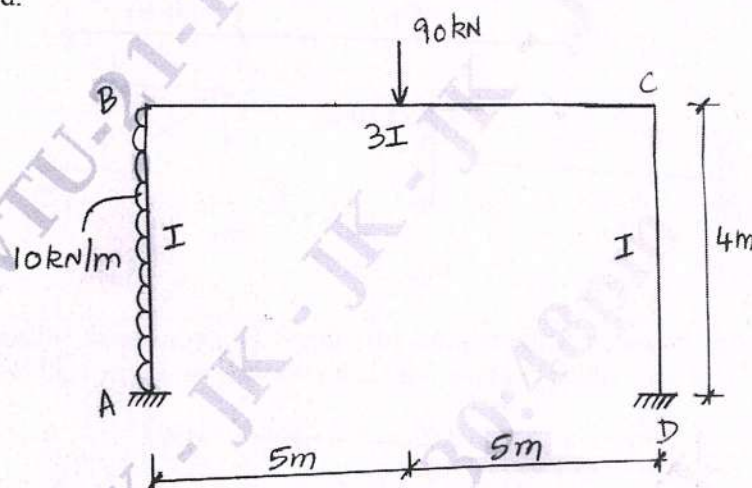

Fig.Q.8
- Q.8 Analyze the portal frame subjected to loads as shown in Fig.Q.8. Consider sway effects also draw bending moment diagram. By slope deflection method.